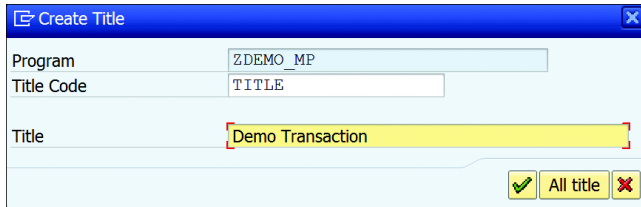

Figure 12.43 Create Title
2. The CREATE TITLE window will open (see Figure 12.43). Maintain a title code and the TITLE text. Click CONTINUE.